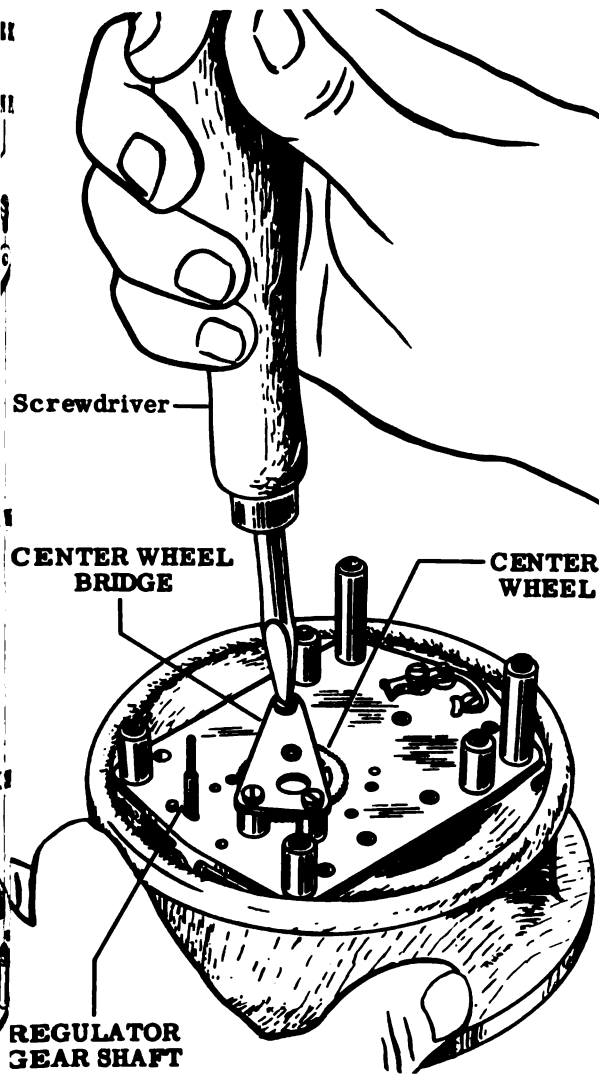

Figure 50
15. Unscrew the three center wheel bridge screws, as shown in Fig. 50, and remove the center wheel bridge.
16. Remove the center (third) wheel. See Fig. 50.